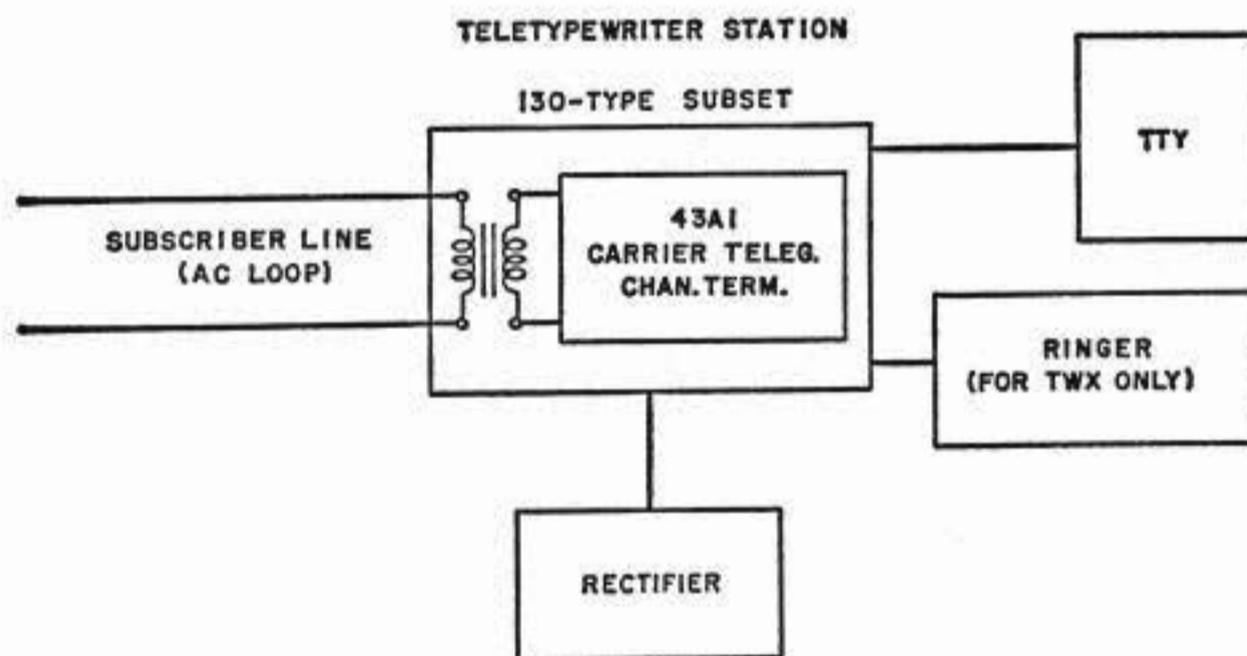

Fig. 1—Block Diagram of Teletypewriter Station Set Using 43A1 Carrier Channel Terminal Mounted in 130-type Teletypewriter Subscriber Set
- (d) For TWX service, a retardation coil and shunting capacitor is supplied for use with the ringer. Fig. 1 is a block diagram showing the relation of the 130-type subscriber set to the other units of the station.